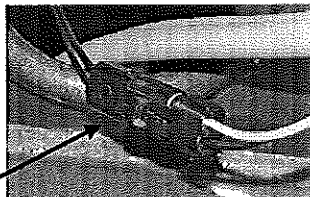

Figure 11
13. Re-connect the coil wires with the lift unit. See Figure 11. Clean up any oil spillage.